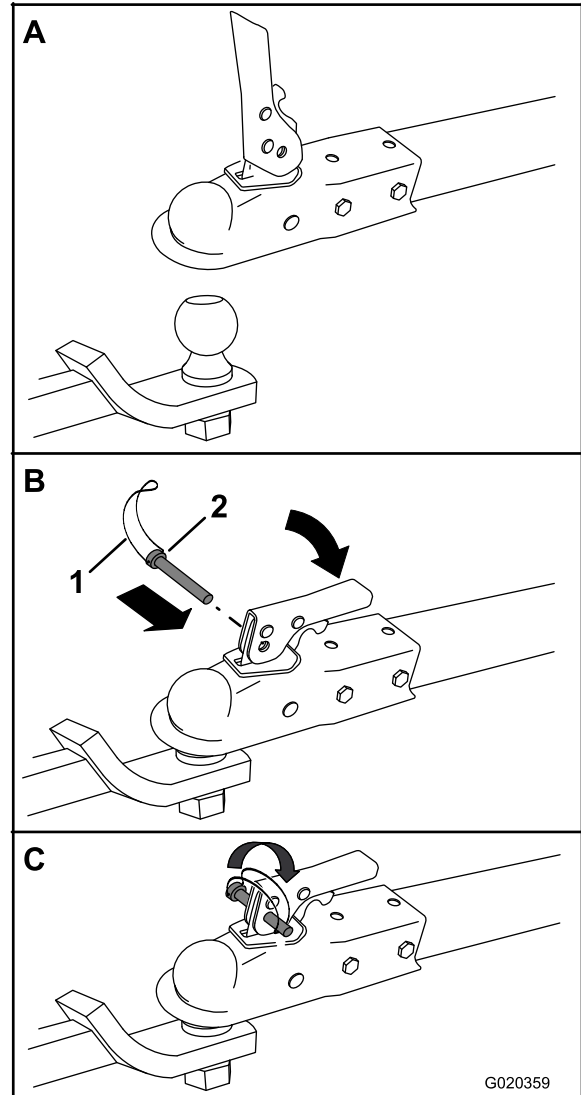

Figure 16
- Open the coupler latch (Figure 16).
- Position the coupler on top of the hitch ball (Figure 16).
- Close the coupler latch (Figure 16).
- Open the bail on the safety pin and insert the pin through the hole in the latch (Figure 16).
- Rotate the free end of the bail over the end of the safety pin that is protruding through the latch (Figure 16).